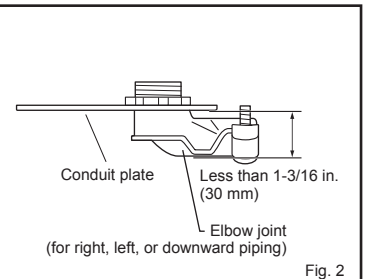

Fig. 2
- 5) Attach conduit pipe (for rear piping) / elbow joint (for right, left, or downward piping) to conduit plate with lock nut. The thread of the installed conduit pipe / elbow joint appearing inside should be less than 3/8 in. (10 mm). (Fig. 1) Elbow joint should appear less than 1-3/16 in. (30 mm) outside. (Fig. 2)
- Pull out the drain hose at the back left of the indoor unit. (Fig. 2)